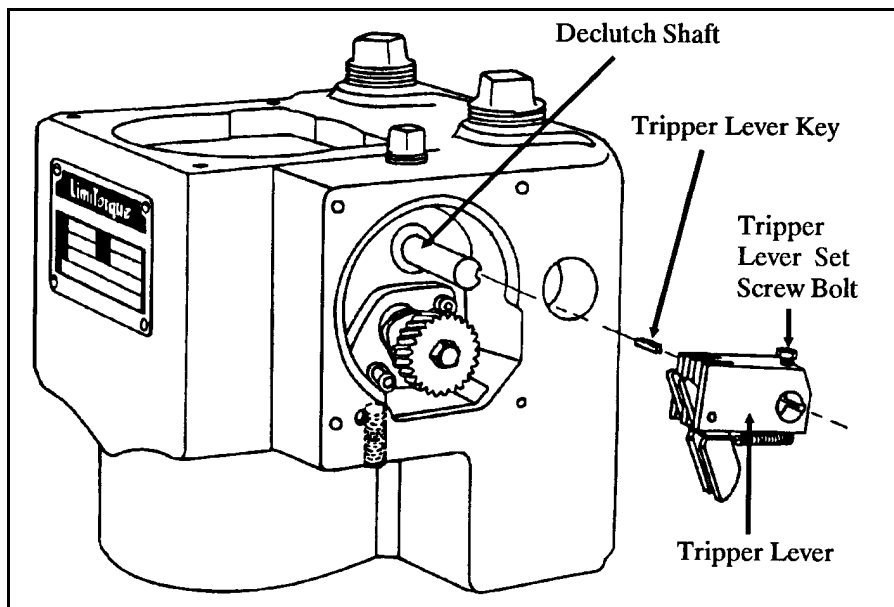

Figure 4-23 Tripper Removal
7. Tripper Removal Refer to Figure 4-23